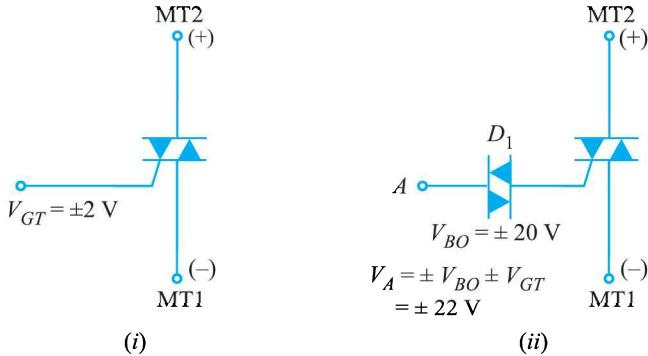

Fig. 21.22
**Solution.** The rated values of  $V_{GT}$  for triacs are generally low. For example, the triac shown in Fig. 21.22 (i) has  $V_{GT} = \pm 2V$ . However, we can raise the triggering level of the triac by using a diac in the gate circuit as shown in Fig. 21.22 (ii). With the diac present, the triac can still be triggered by both positive and negative gate voltages. However, to fire the triac into conduction, the potential  $V_A$  at point A in Fig. 21.22 (ii) must overcome the  $V_{BO}$  (breakdown voltage) for the diac plus  $V_{GT}$  i.e.